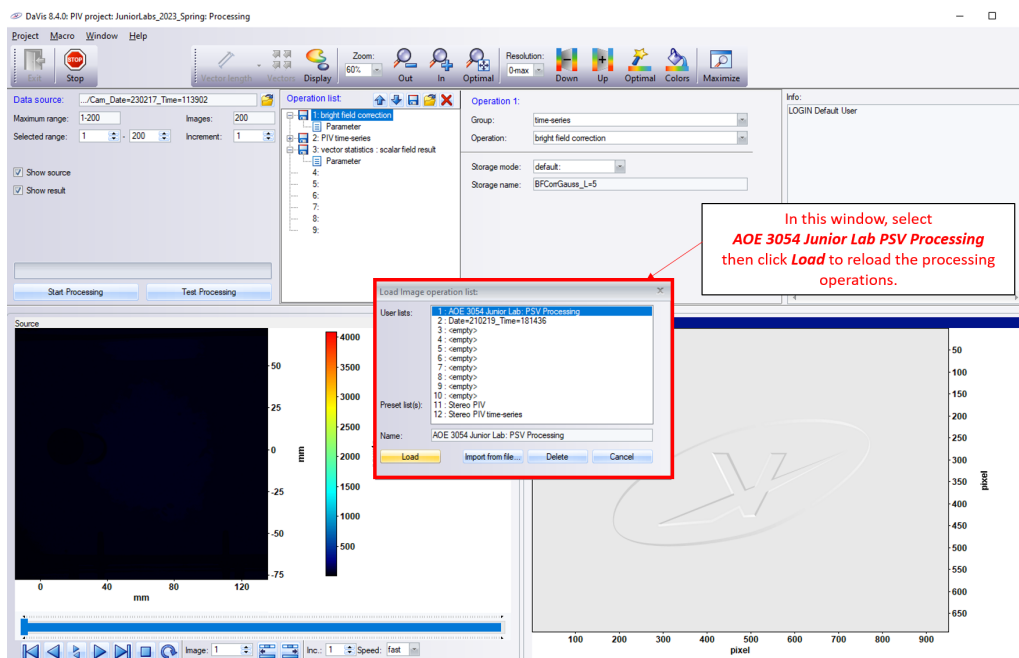

Figure 13: Load Processing operation list.
- **NOTE:** If you set up the processing operation list properly, your image set tree should look like Figure 15a. If you only see Avg_Stdev (as in Figure 15b), the data was not processed correctly and you need to reload the operation list (Figure 13) and reprocess the data again.